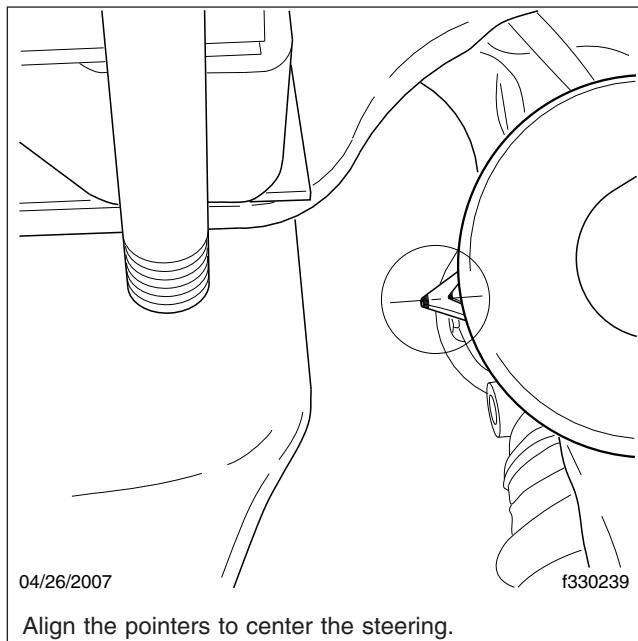

Fig. 5, Centering the Rack and Pinion Steering Gear
5. Place a turn-plate or turntable under both front tires. Remove the safety stands and lower the vehicle. Remove the lock-pins from the gauges; make sure the tires are exactly straight ahead. On vehicles with rack and pinion steering, center the rack using the pointers on the front of the input shaft housing. See Fig. 5.